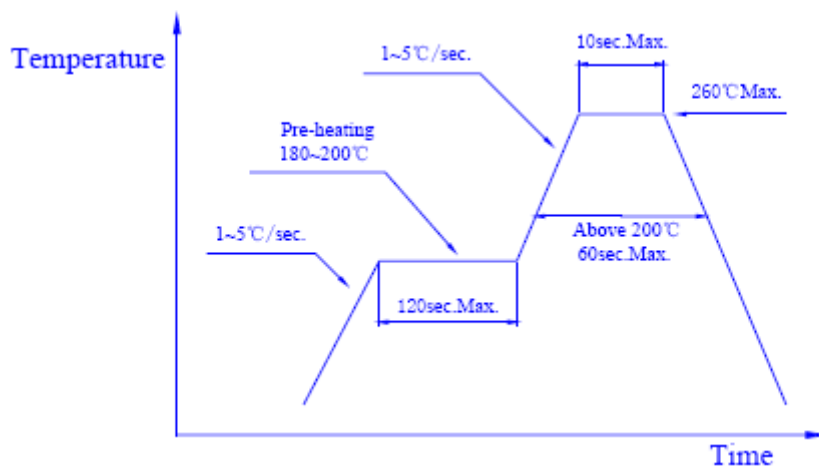

Fig.3
② Reflow soldering:
a. The temperature profile as shown in Fig. 3 is recommended for soldering SMD LED by the reflow furnace.